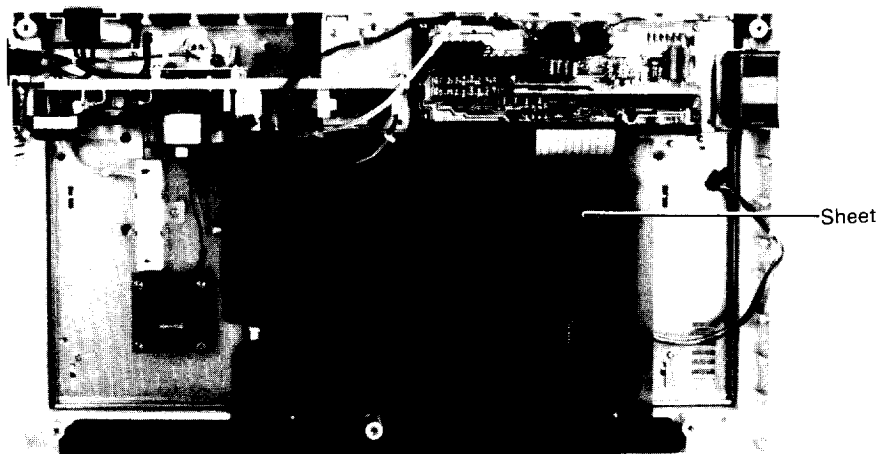

Fig. 4.3 Control circuit board sheet
- STEP 2: Remove the interface unit. (See paragraph 4.3.2 (4))
- STEP 4: Remove the control circuit board sheet. (See Fig. 4.3.)